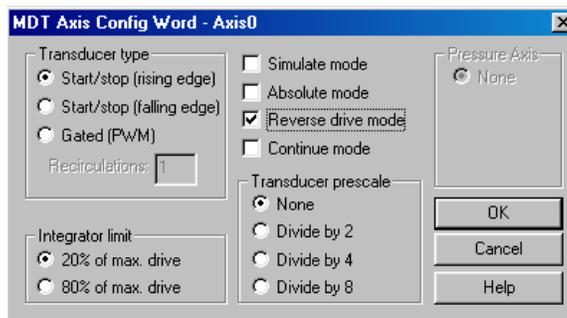

Figure 4. Setting Reverse drive mode.
2. The actuator moved and the COUNTS decreased. In this case you must use the Reverse Drive Mode bit in the CONFIG parameter to reverse the direction. Double click on the CONFIG parameter, check the Reverse Drive Mode option in the dialog box (see Figure 4). Click OK, and then click the **P** to initialize the RMC100.